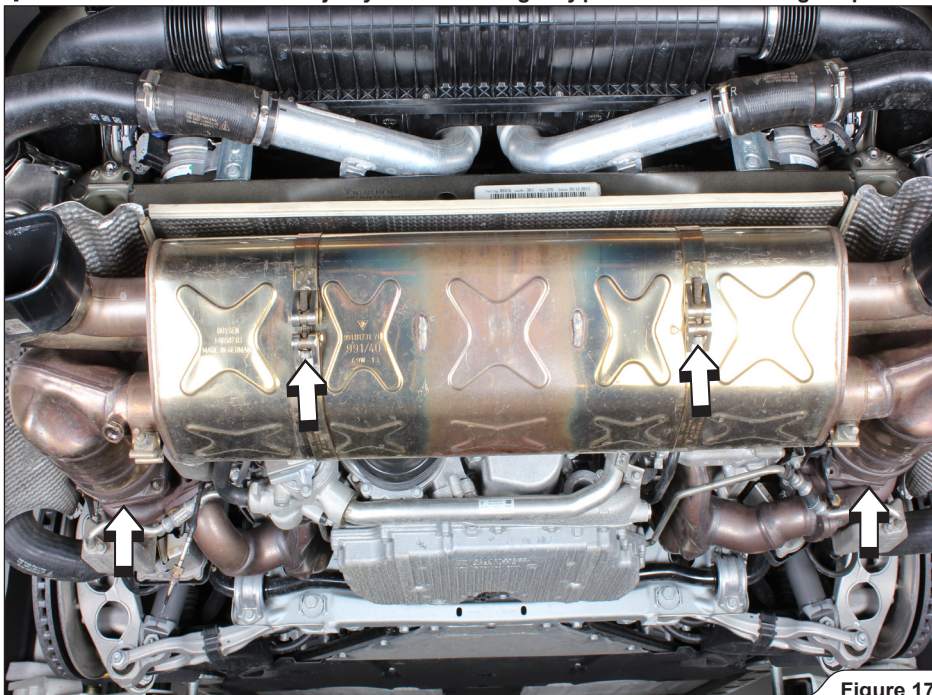

Figure 17
9. Loosen the marked muffler's tape clamps, unscrew all nuts of the link pipes flanges and the bolts of turbo chargers' heat shield on both sides of the engine (Figure 17, 18).